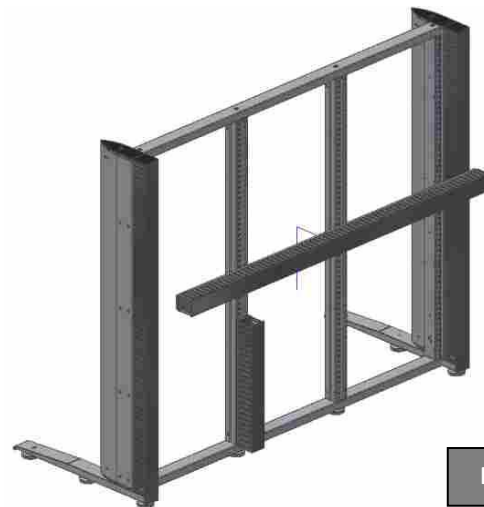

Fig 5
STEP 1 – Insert the hooks of the **duct** in the trapezoids of the **grooved bars** (Fig. 5 and 6). Use a nylon mallet.